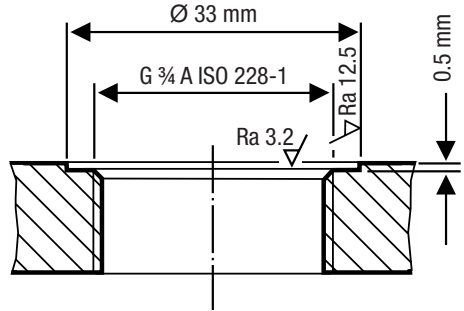

Fig. 6
- Inspect the sealing surfaces of the tank threaded standpipe or flange cover to ensure they are perfectly machined, see Fig. 6.
Sealing surfaces must be perfectly machined, as shown in Fig. 6.